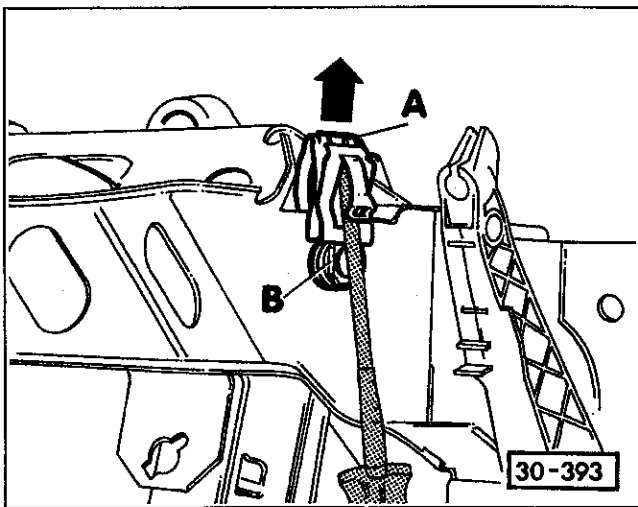

Fig. 4. Remove pedal shaft clip (A) by prying up and off (direction of arrow). When installing clip, flats on shaft (B) must be vertical.
4. Remove pedal shaft retaining clip. See Fig. 4.